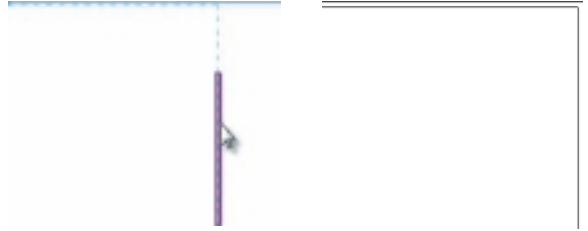

Figure 3.32
3. Move your mouse pointer over a second line or wall to trim/extend. Notice the dashed blue line. This provides a preview of what the end result of the operation will be. Click the part of the element you want to keep, and that element will automatically be trimmed or extended (Figure 3.32). The elements are trimmed.